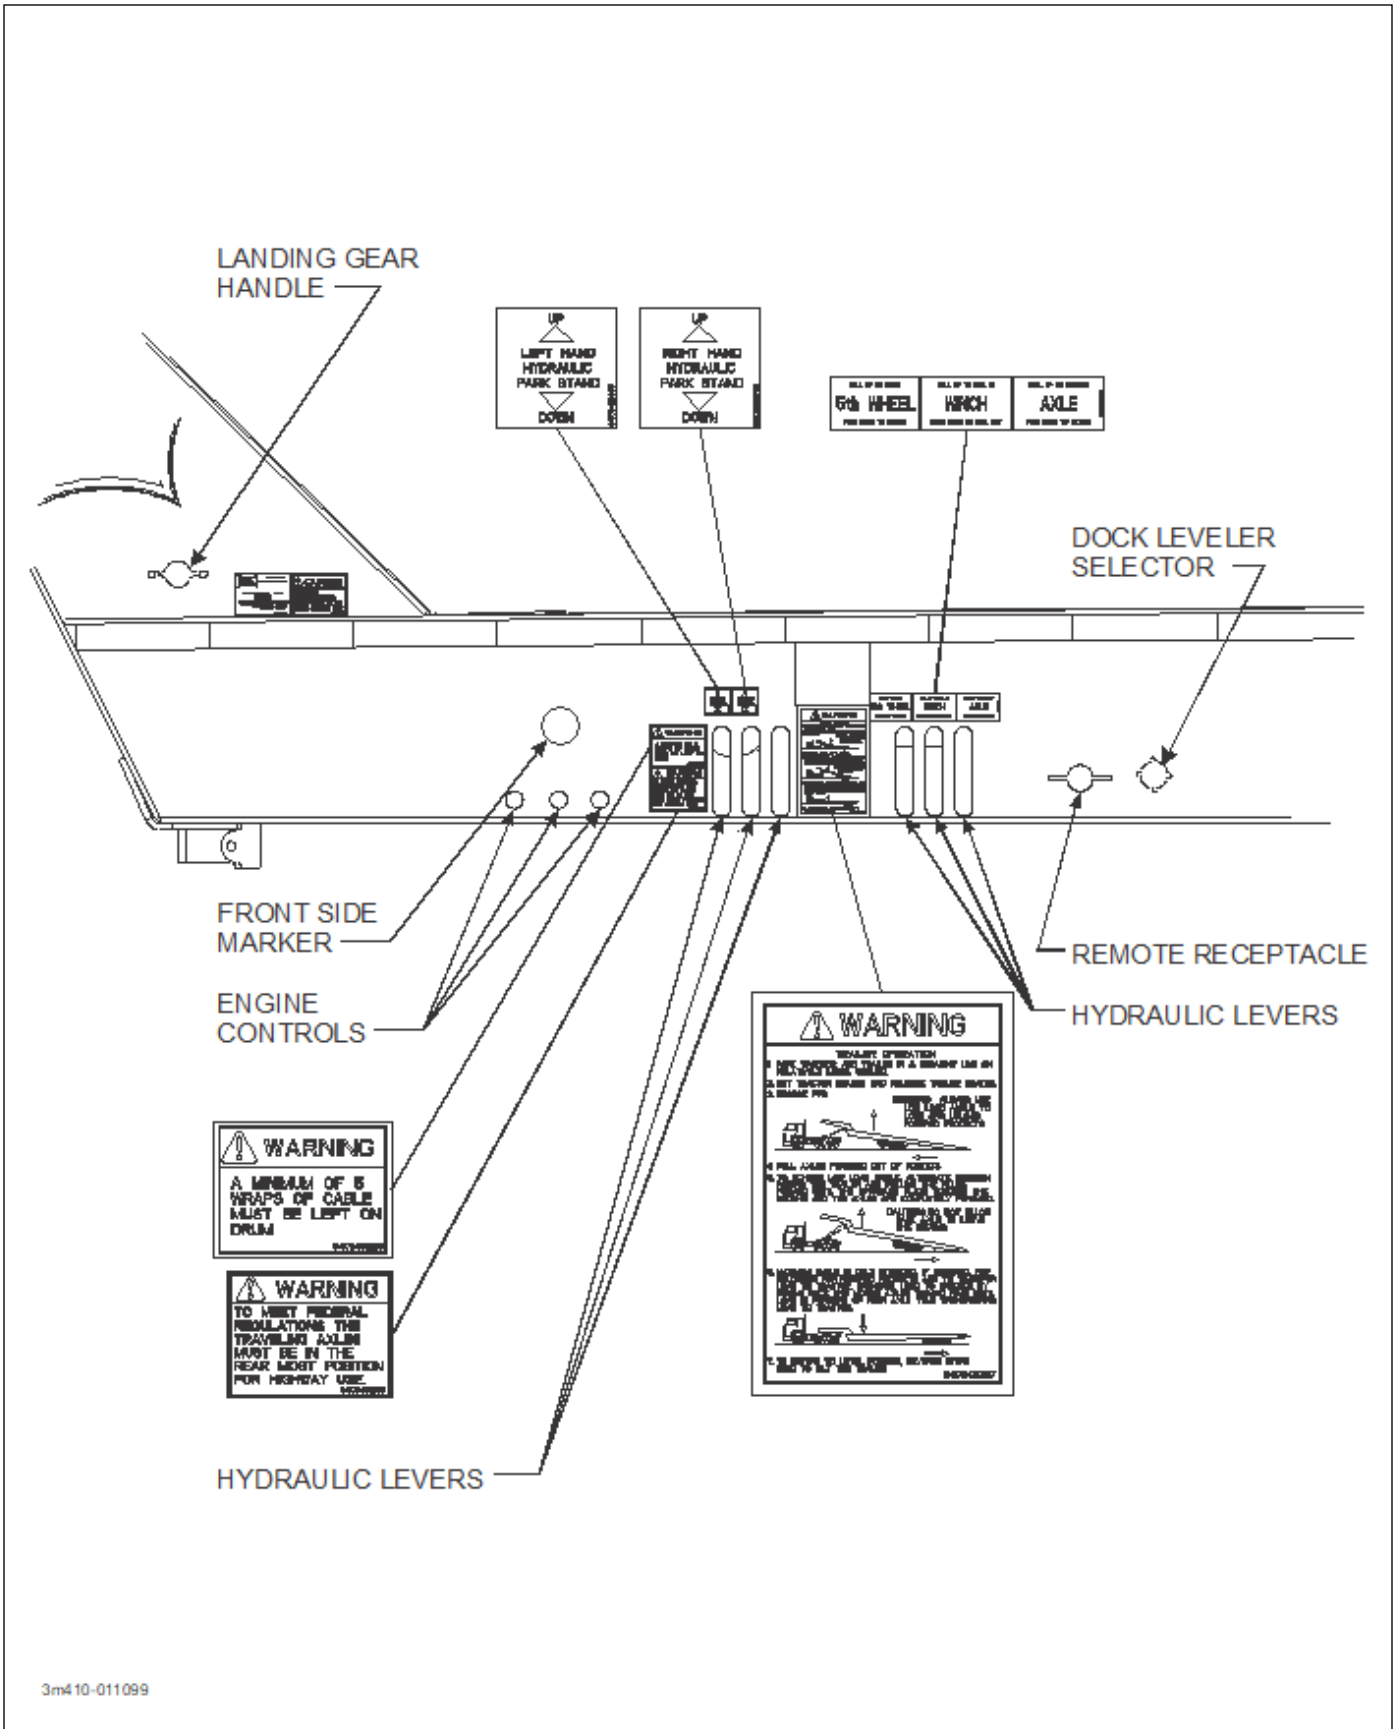

Figure 3-4: Hydraulic Controls
- a. For pin drop landing gear, activate the **TRAILER TILT** lever “UP” until weight is off the landing gear (See Figure 3-4.) Raise landing gear. (See “Trailer Tilt Lever” on page 3-9 for operation of **TRAILER TILT** lever.) Secure each leg with a park stand retaining pin in the full “up” position before transporting.
- c. For hydraulic landing gear, remove the pin from each landing gear leg. Retract landing gear using lever (See Step 2) on engine control panel (See Figure 3-4.) Secure each leg with a pin in fully retracted position.